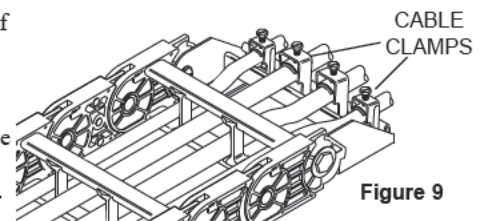

Figure 9
6. Clamp all cables/hoses firmly at both ends of the trak (Fig. 9). To avoid damage to the inner structure of the cables/hoses, clamp over a wide area of the outer jacket. Always leave slack between clamps and termination points to avoid stress on cables/hoses.